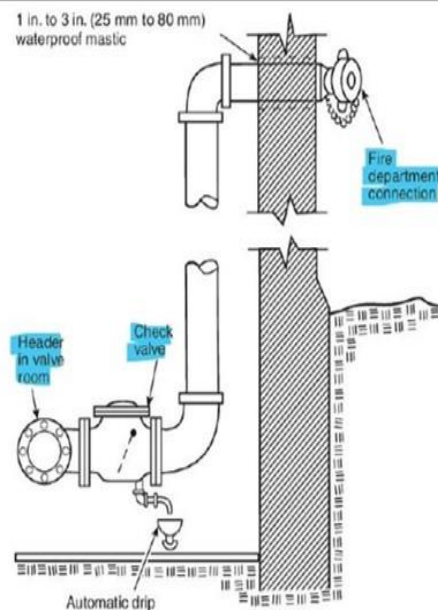

FIGURE 16.12.1 Fire Department Connection.
16.12.5* Arrangement. The fire department connection shall be arranged in accordance with **Figure 16.12.1.**